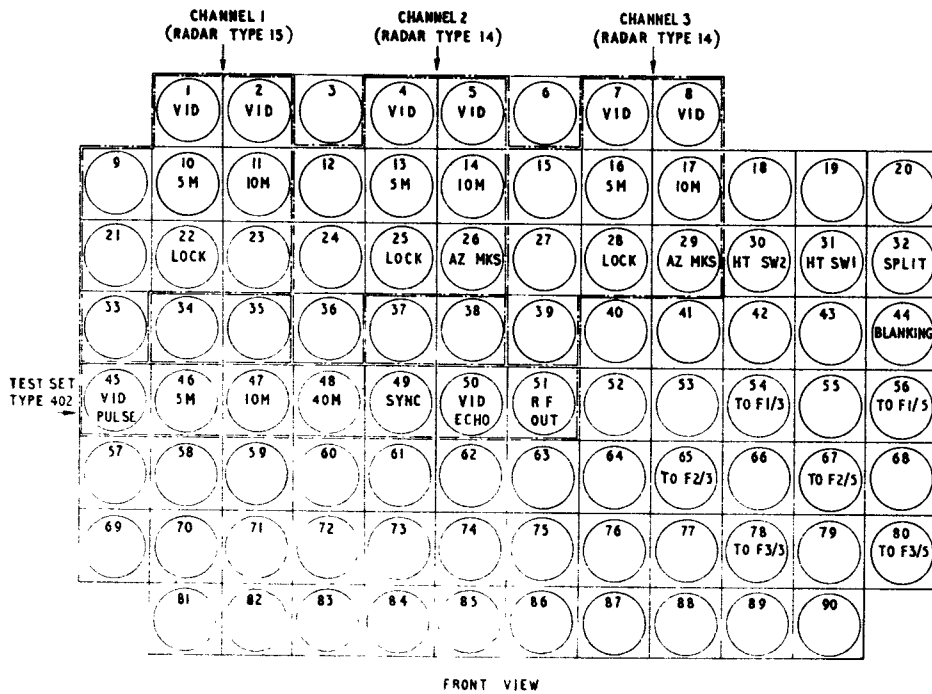

Fig. 5. Panel (signals outlet) Type 620, schematic
22. A schematic diagram of the inputs and outputs through this panel is given on fig. 5.